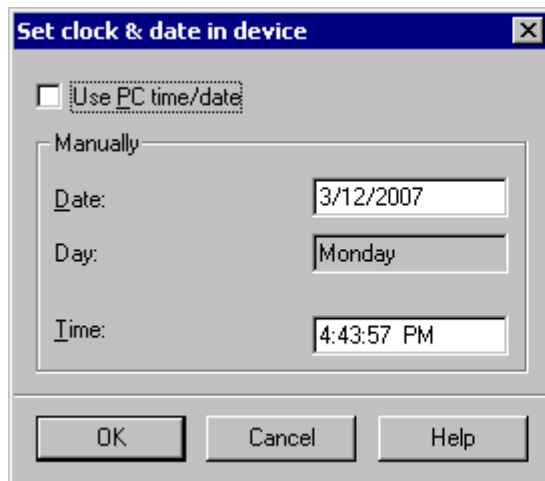

Figure 6-26 Set clock &amp; date in device dialog box
- ❑ Enter date and time in the corresponding boxes. Observe the correct notation (see Figure 6-26, page 242).